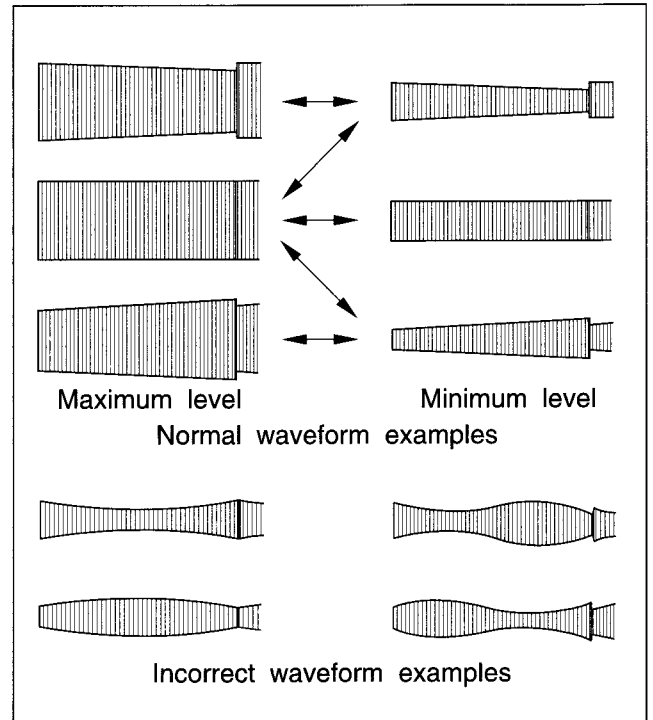

Fig. 1-7-1
- (1) Connect the oscilloscope to PB FM on the Main board.Use D.FF on the Main board as a trigger.
- (2) Playback the SP stairstep portion of the alignment tape [MHP, MHPE]. Confirm that the FM waveform appears as indicated in Fig.1-7-1.
- (3) Set the manual tracking position by pressing the **///** button on the remote controller or TV PROG "-" and "+" buttons simultaneously.
- (4) Operate the tracking adjustment (press the TV PROG buttons during playback) and set for maximum playback FM waveform.
- (5) By operating the TV PROG button, vary the FM waveform from maximum to minimum and vice versa to confirm that the waveform varies nearly in a flat shape as shown in Fig.1-7-1.